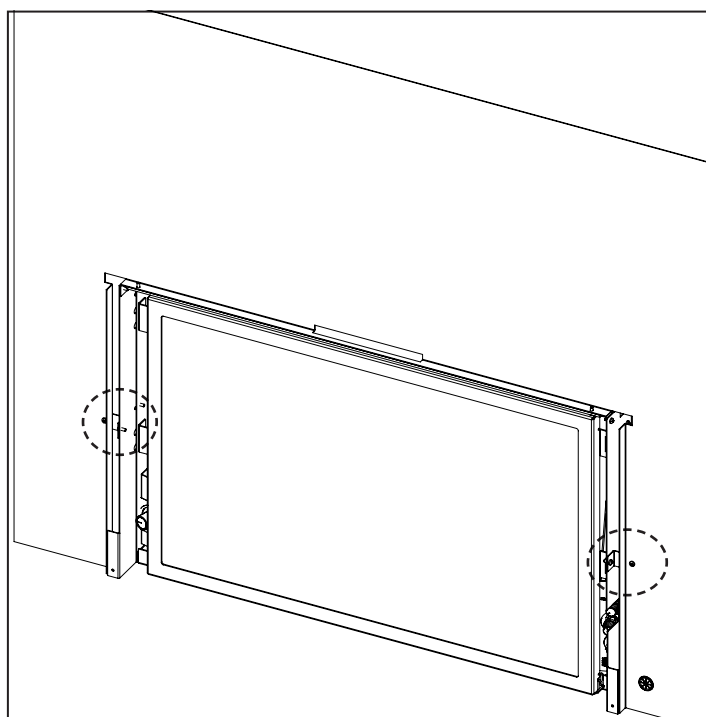

Figure 40: Trimmable Panel Installed
3. Using the remaining hardware attach the Trimmable Panel to the Panel Brackets using a T-20 Torx screwdriver (See Figure 40).